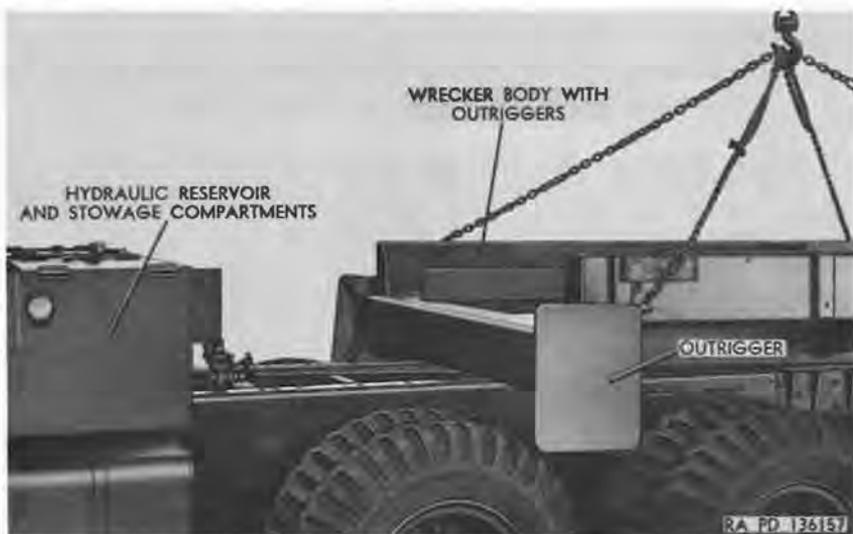

Figure 5. Lifting of wrecker body with outriggers from the truck.
(fig. 5)
*a. General.* The approximate weight of the wrecker body with outriggers is approximately 2,100 pounds. Attach a chain sling around the outriggers at each corner of the wrecker body as shown in figure 5 to remove the assembly from the truck.